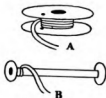

FIGURE 74
**Winding the Bobbin** (Figure 74). — In sewing on the machine, two threads are used, one of which is on the bobbin and the other is used in threading the needle. There are two types of bobbins, the round (A) and the long (B). When winding bobbins release the balance wheel and place the bobbin on the bobbin winder. Place a spool of thread on the spool pin and fasten the thread securely to the bobbin. Attach the bobbin winder and treadle until the bobbin is wound tightly and evenly with thread of suitable size for the material to be sewn. It should not be wound so